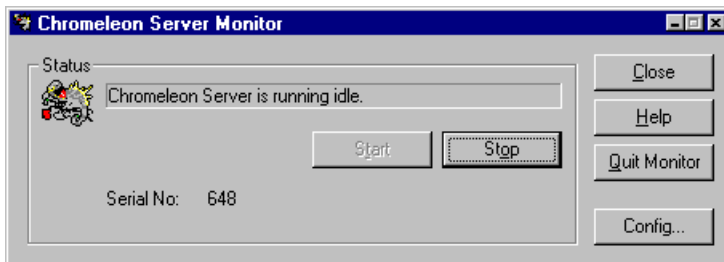

Figure B-6. Server Running
6. Check the Server Monitor status. It should now display “Chromeleon Server is running idle.” (see Figure B-6).